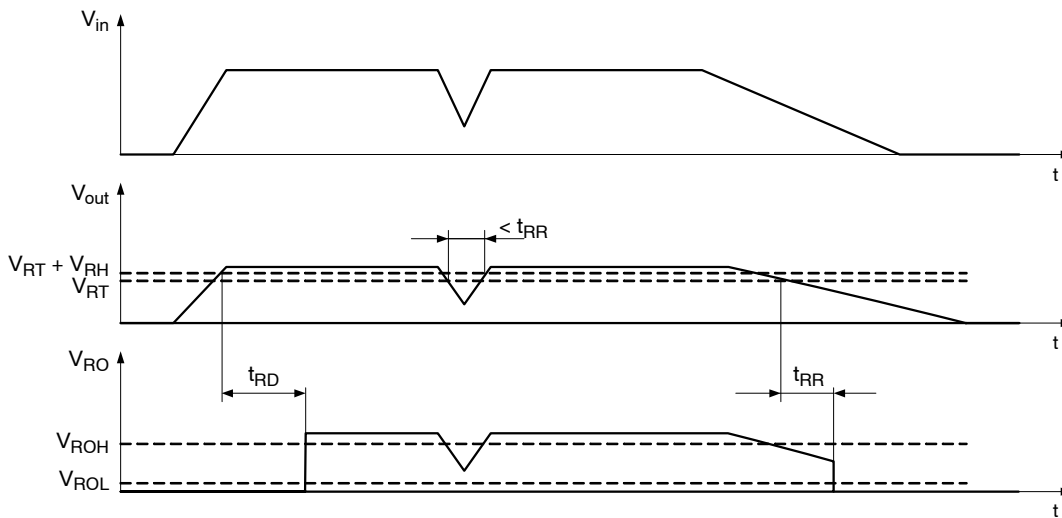

Figure 31. Reset Function and Timing Diagram
A reset signal is provided on the Reset Output (RO) pin to provide feedback to the microprocessor of an out of regulation condition. The timing diagram of reset function is shown in Figure 31. This is in the form of a logic signal on RO. Output voltage conditions below the RESET threshold cause RO to go low. The RO integrity is maintained down to V_{out} = 1.0 V. For 5 V voltage option, the Reset Output (RO) circuitry includes internal pull-up (30 kΩ) connected to the output (V_{out}). No external pull-up is necessary. For voltage options and 3.3 V RO is open drain output and external pull-up resistor is required. Select pull-up resistor in range between 5 kΩ to 100 kΩ with respect to I_{ROmax} and I_{ROLK} limits to keep V_{RO} logic levels at appropriate range.